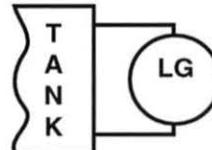

Figure 45. Level Sensing Element Symbol
9. Determine what type of level sensing element symbol is shown in figure 45.